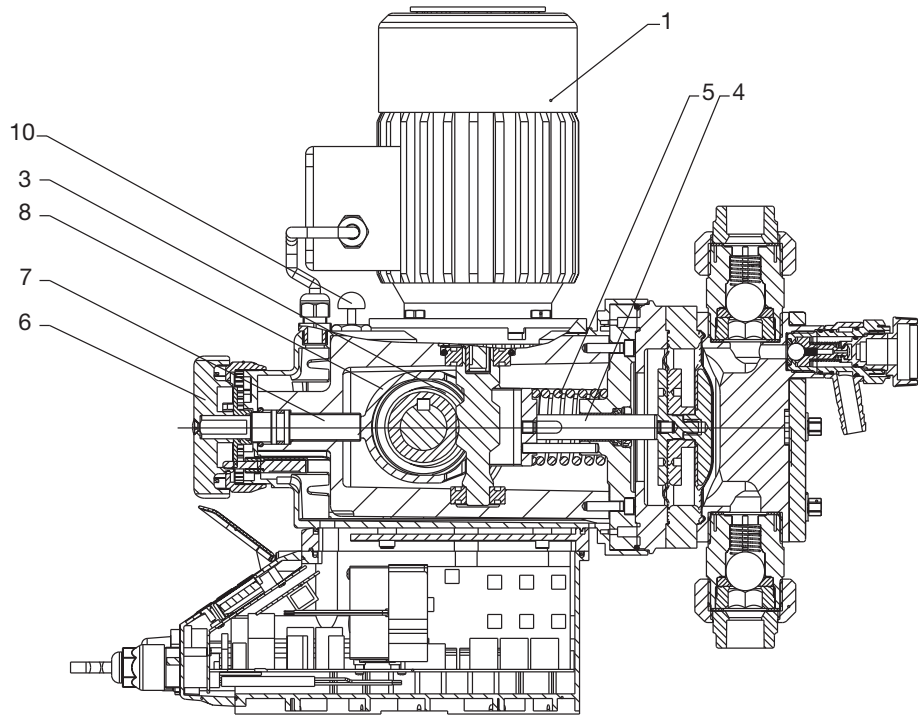

Fig. 2
- Pull the red plug for venting the gear unit during initial operation of the Sigma/ 2 metering pump (refer to Fig. 2, item 10)!